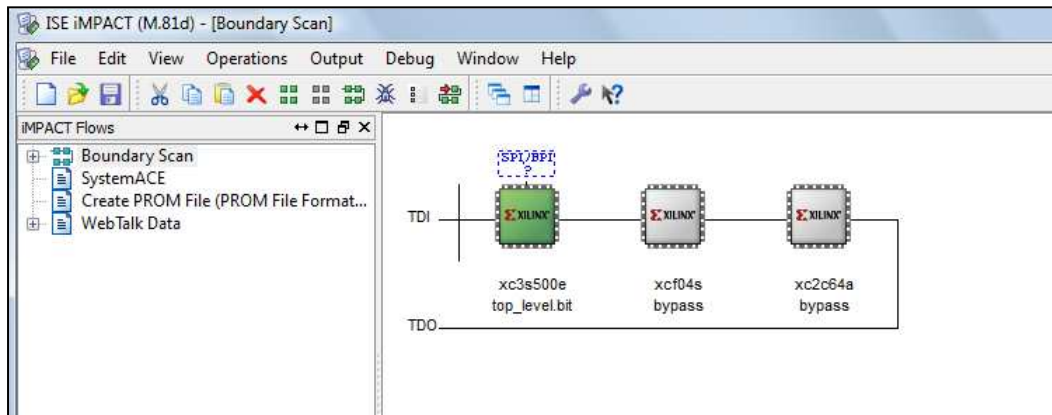
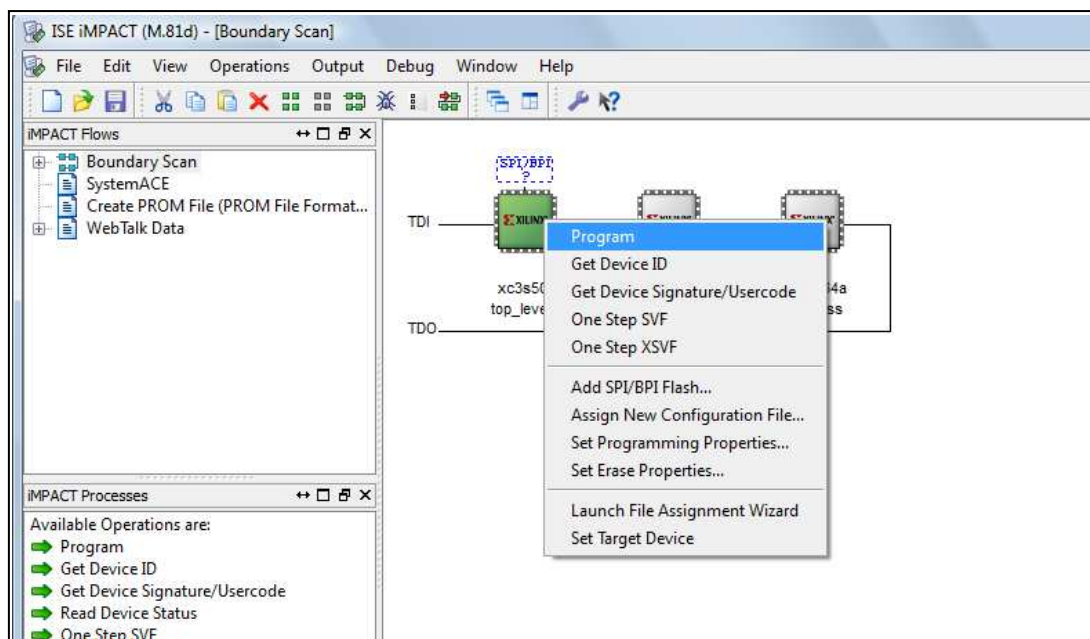

Figure 5.47: iMPACT window, showing the device chain.
Figure 5.48: iMPACT window, options which appear when right clicking on the xc3s500e.
13. The iMPACT window should now appear as shown in Figure 5.47. Right click on the xc3e500e chip (Figure 5.48) and select **Program**.